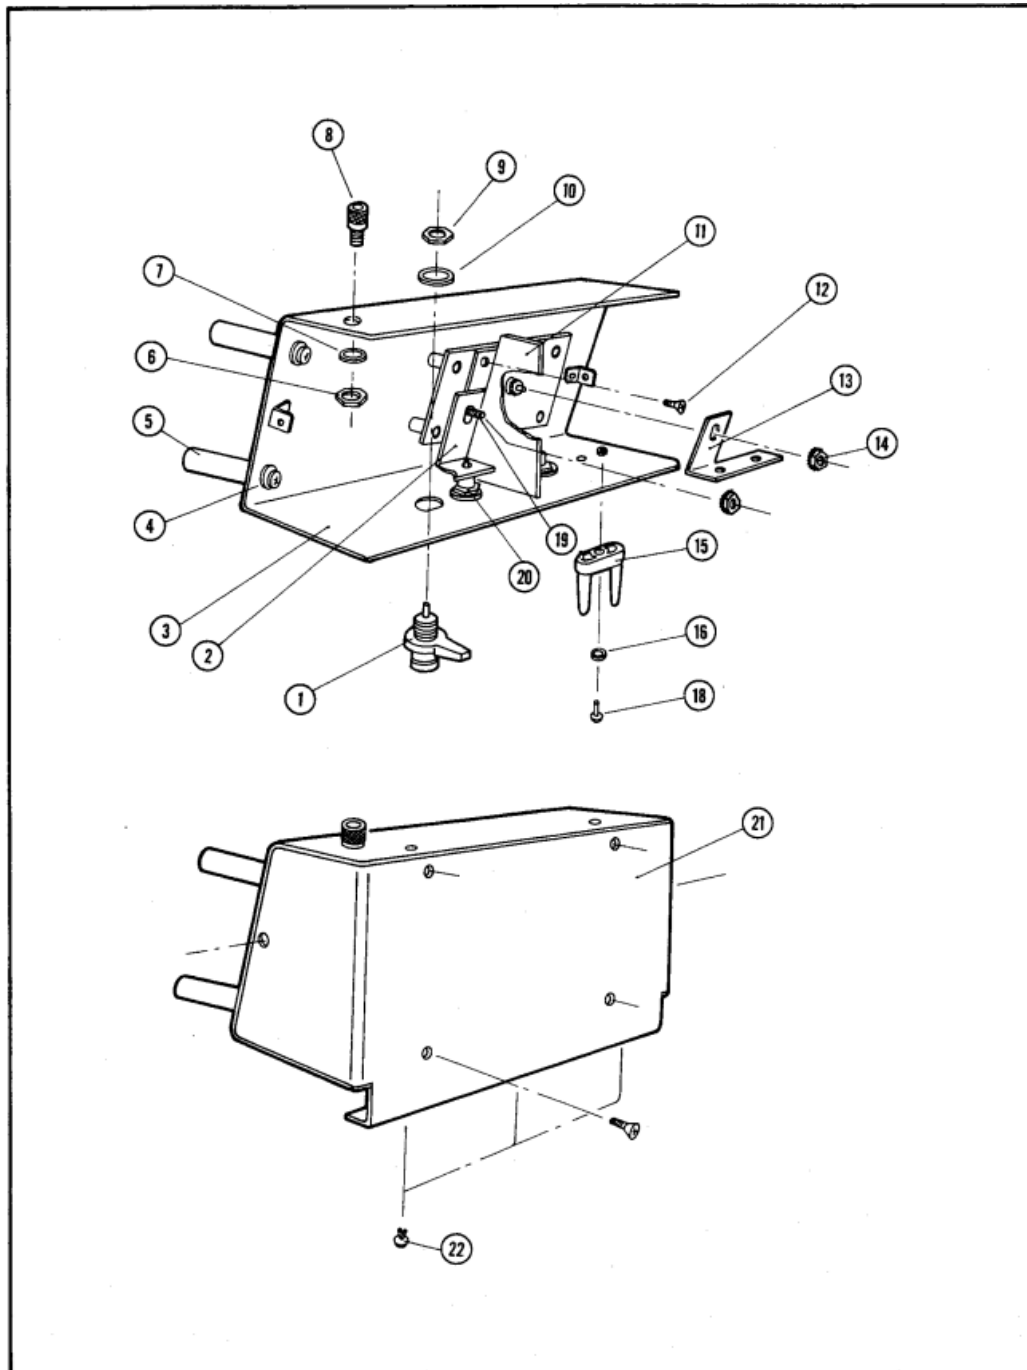

Figure 1. Parts Identification for 16085A (Sheet 1 of 2).
- Figure 1 shows an exploded view of the 16085B Terminal Adapter and a list of replaceable parts. Do not disassemble the unit any further than shown in Figure 1.
- Maintenance consists principally of cleaning the contacts and replacing worn or damaged parts. To order replacement parts, use the HP part numbers listed in Figure 1.